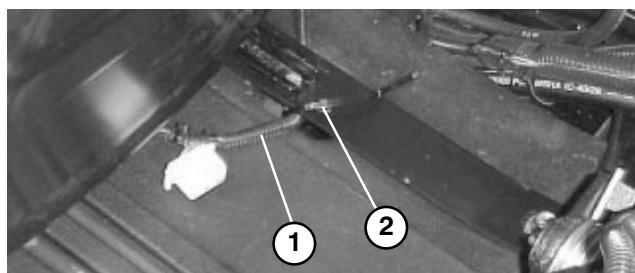

Figure 7
6. On standard seat only, slide seat all the way forward, pull wire to the right so unused connector is positioned as shown in figure 7 and secure seat switch wire to rear most hole in seat strap with a cable tie (cable tie supplied with seat kit).